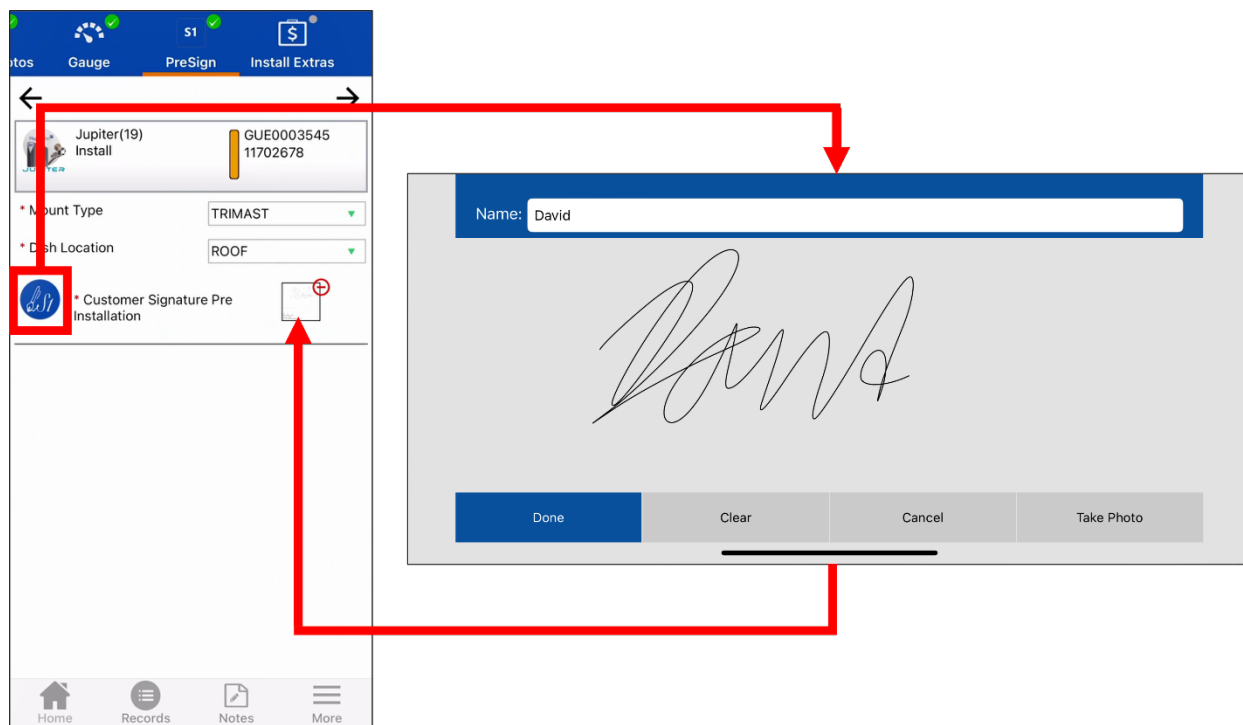

Figure 49: PreSign step – customer signature
3. Tap the Customer Signature icon (outlined in Figure 49).
4. In the signature screen that displays, the customer must sign their name on the screen and type their name in the *Name* field, as shown in Figure 49. This signifies their approval of the antenna location and mount type.
6. OASIS navigates back to the PreSign step, where the customer’s signature now appears (Figure 49 on page 45). The signature is saved as an attachment on the FSO.